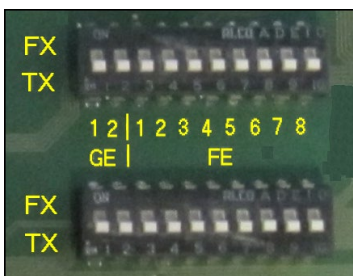

Figure 1-7: Enable Copper (TX) or optical (FX) communication interface
Each Fast Ethernet port (FE) can operate in either 10/100Base-TX (using RJ45 connectors) or 100Base-FX mode (using the SFP port) selected by the two Mode-switches (see Figure 1-7). The Gigabit Ethernet ports (GE) can operate in either 1000Base-TX or 100/1000Base-FX mode.